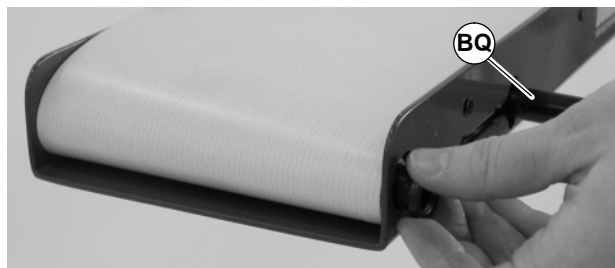

Figure 51
5. Insert pulley installation tool (BQ of Figure 51) into opposite side of conveyor.